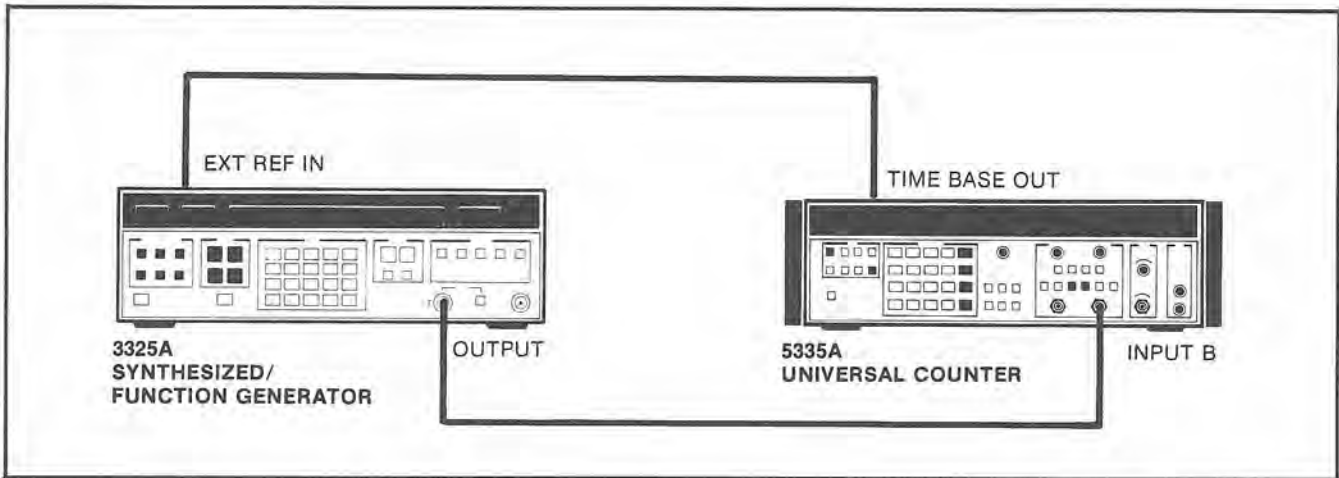

Figure 4-9. Channel B Frequency Response and Sensitivity Test Setup (20 MHz)
b. Connect the 3325A Synthesizer/Function Generator to the 5335A INPUT B as in shown Figure 4-9.